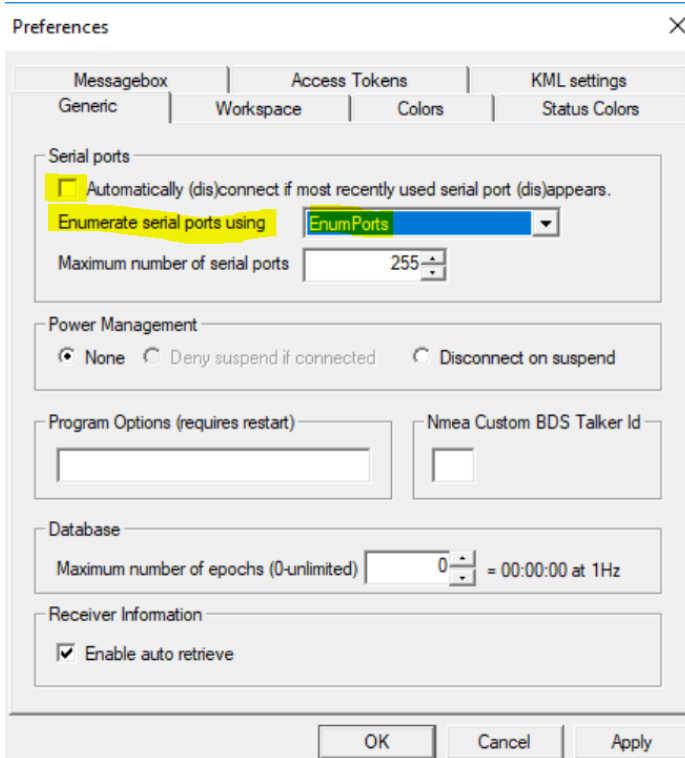

Figure 22: u-center COM port enumeration
- After selecting the client port (outgoing port) in u-center, C099-F9P will be automatically requested to open a data stream between ZED-F9P and the Bluetooth COM port. Note that u-center has default COM port behavior resulting in connection failures or non-listed outgoing Bluetooth COM ports. As a workaround, it is recommended to change the default COM port enumeration in u-center as shown in Figure 22.